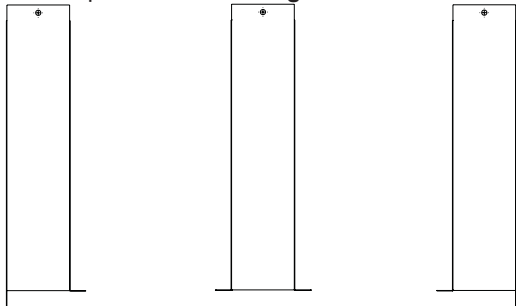

Figure 9
3. The brackets have a perforation located on each end. Bend them at the perforation. See Figure 9.